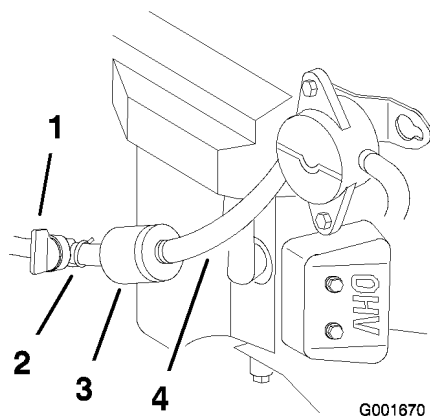

Figure 39
5. Close the fuel shutoff valve (Figure 39).
6. Squeeze the ends of the hose clamps together and slide them away from the filter (Figure 39).
8. Install a new filter and move the hose clamps close to the filter (Figure 39).
3. Close the fuel shutoff valve (Figure 39).
4. Loosen the hose clamp at the fuel filter and slide it up the fuel line away from the fuel filter (Figure 39).
5. Disconnect the fuel line from the fuel filter (Figure 39).
Note: Allow gasoline to drain into a fuel container can or drain pan (Figure 39).
7. Install the fuel line onto the fuel filter. Slide the hose clamp close to the fuel filter to secure the fuel line (Figure 39).